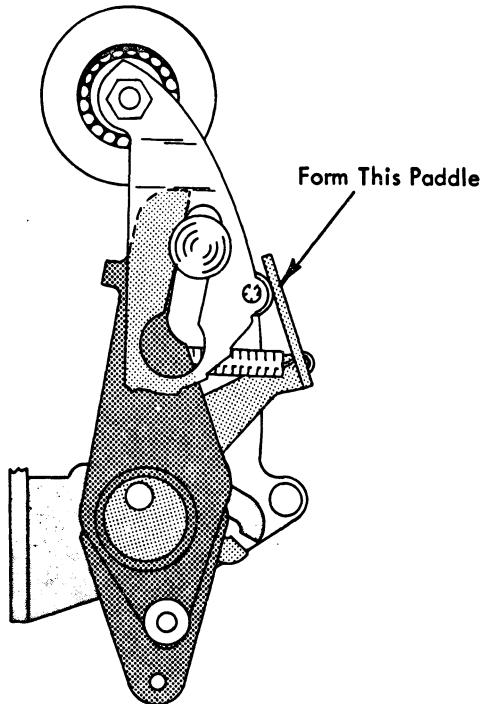

FIGURE 128. Arm Assembly. In -3 Position
12. **Ratio Change Adjustment** - With the machine half-cycled under power to an upper case -3 character, form the paddle on the rotate eccentric arm until the upper case -3 character detents the same as the upper case -5 character. Each time the paddle (Fig. 128) is formed the machine must be recycled under power before observing the detenting of the -3 character. This allows the eccentric shoulder to reseat itself in the compensating arm.